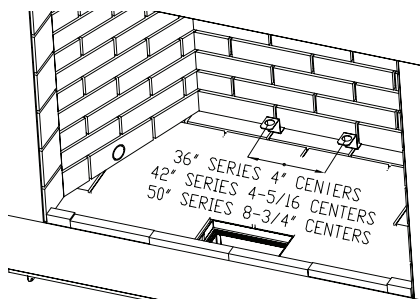

Figure 21 - Installing Grate Retainers
3. Position "Z" shaped grate retaining brackets on top of the notched area toward the rear of the bottom refractory. They should be positioned a distance apart as shown in Figure 21.